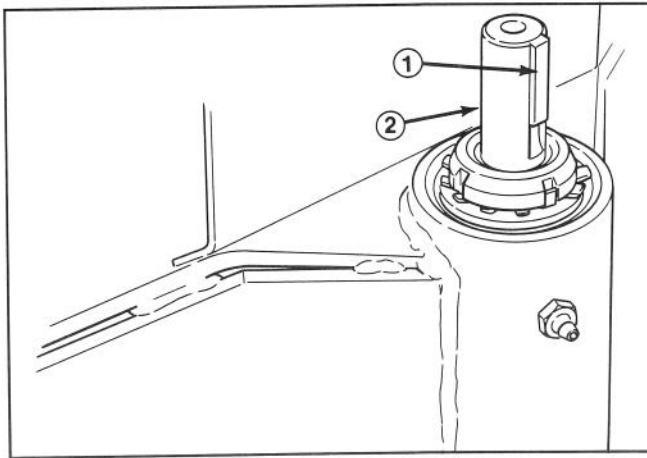

Figure 1
1. Insert key into keyway on handle mounting shaft (Fig. 1).